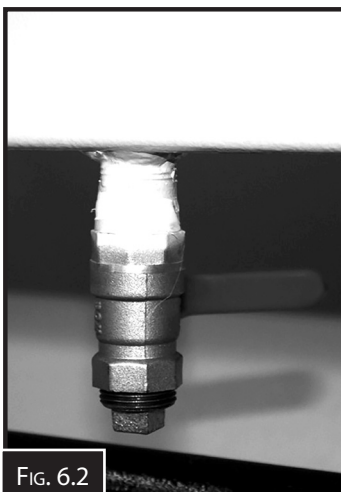

FIG. 6.2
- Remove the oil in the tank using the drain tap at the bottom of the tank. (Fig 6.2)